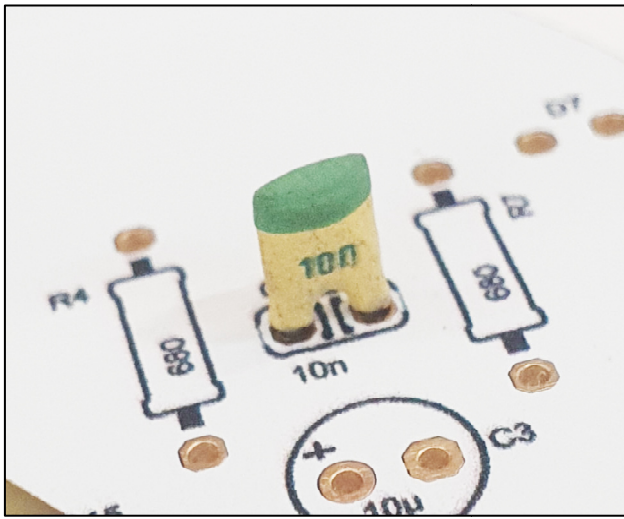
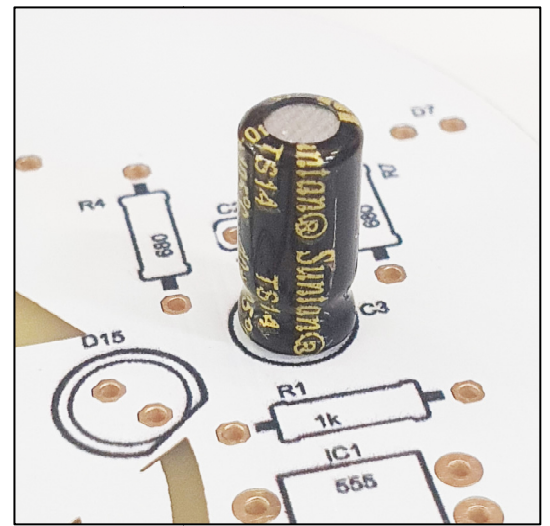

Fig. 3
Fig. 4
Step 2) Place and solder the 10nF ceramic capacitor (Fig. 3). Like the resistors, the ceramic capacitor has no polarity and can therefore be placed either way around. Then, place and solder the two cylindrical electrolytic capacitors (Fig. 4). Note that these capacitors are polarized and therefore the long lead has to be soldered to the pad marked with a “+”.